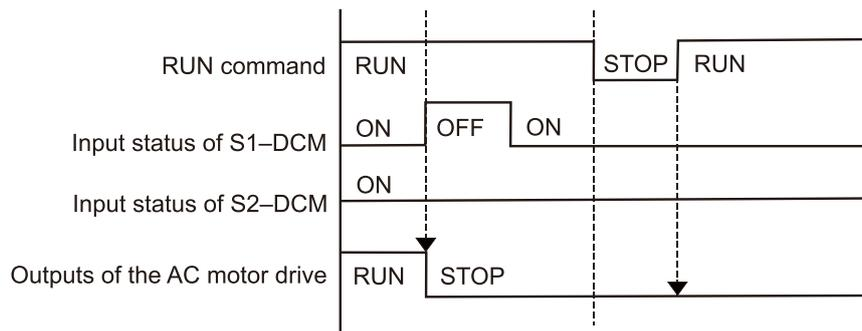

Figure 15-8
When S1-DCM is OFF during operation (STO function is required) and S2-DCM is ON (STO function is not required), the drive stops outputting and the keypad shows the STL1 error. You cannot reset the STL1 error even if the S1 status is restored (ON) regardless of the parameter setting. See Figure 15-8. You must cycle the power to reset and to restore the drive to the normal standby state.